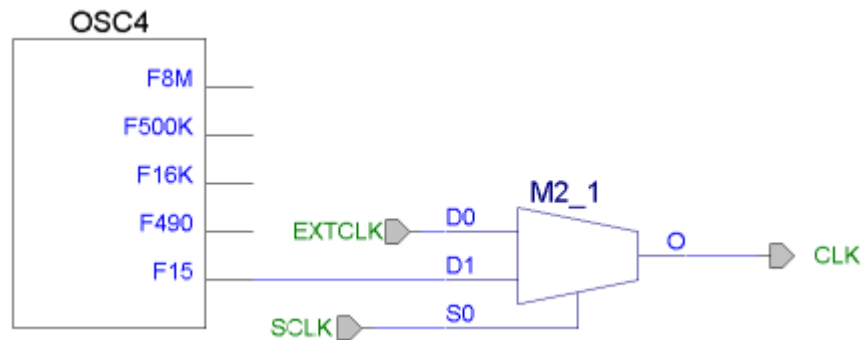

Figure 7-7. The schematic of the CLK generator circuit.
9. In this 1st Part, you will design a circuit to use the CLK generator on the Xilinx board. For this purpose, construct the circuit given in Figure 7-7, and create a hierarchical view (name as CLKGEN).